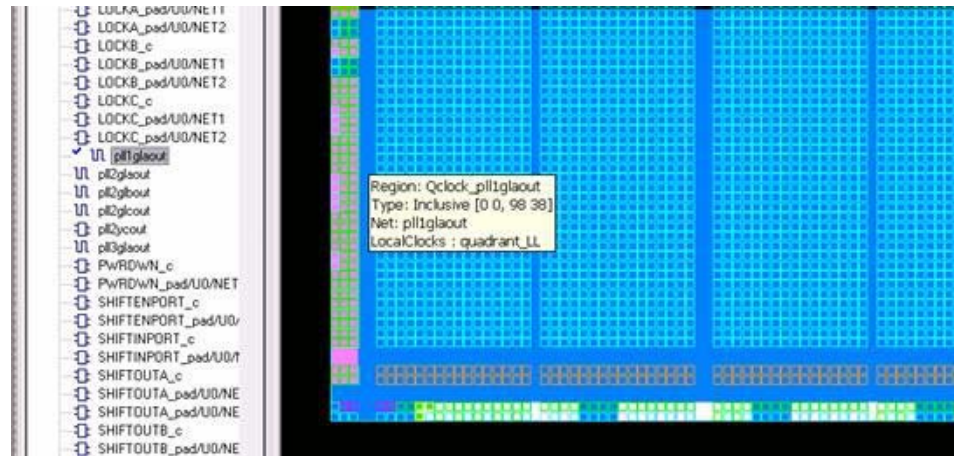

Figure 5-33 • Quadrant Clock Assignment for a Global Net
- Use quadrant global region assignments by finding the clock net associated with the CCC macro under the Nets tab and creating a quadrant global region for the net, as shown in Figure 5-33.